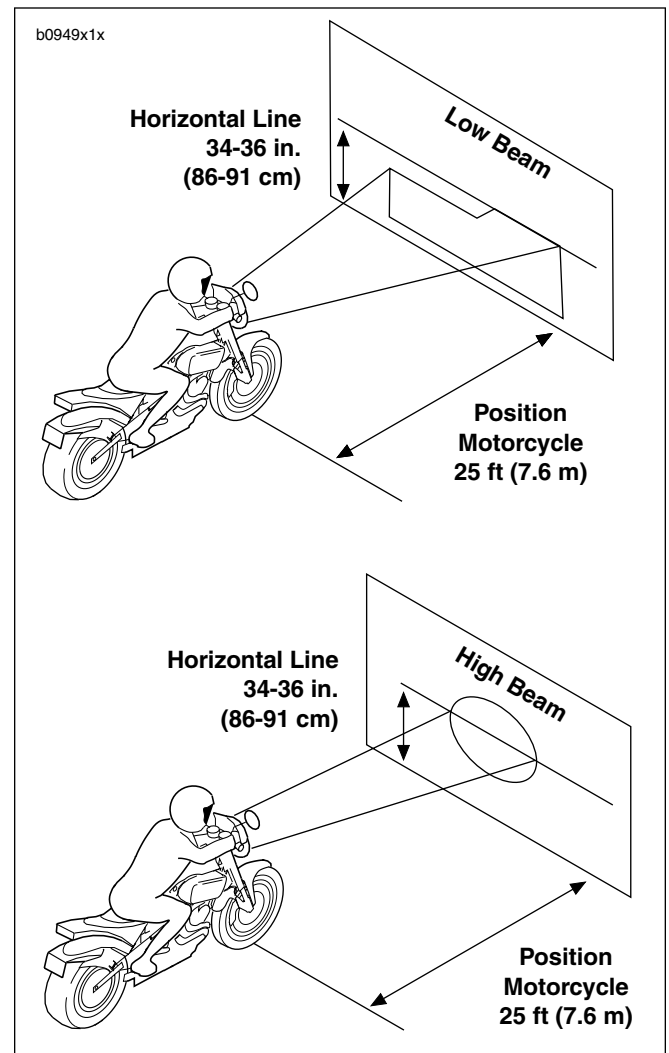

Figure 1-57. Checking Headlight Alignment
2. See Figure 1-57. Position motorcycle 25 ft (7.6 m) away from a screen or wall by measuring the distance from the front axle to the screen/wall.
- b. Check that the correct pattern of light is a double rectangular pattern and is aligned with the horizontal line as shown in Figure 1-57.
- b. Check that the correct pattern of light is a circular pattern and is centered on the horizontal line as shown in Figure 1-57.